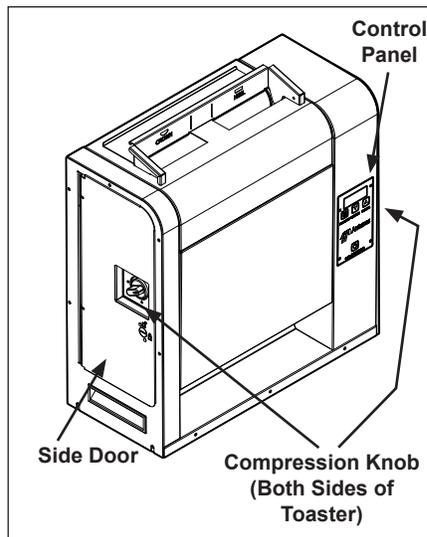

Figure 1. GST-2V Toaster
5. Set the Compression Knobs to the desired setting (Figure 1). The recommended Compression Settings are: